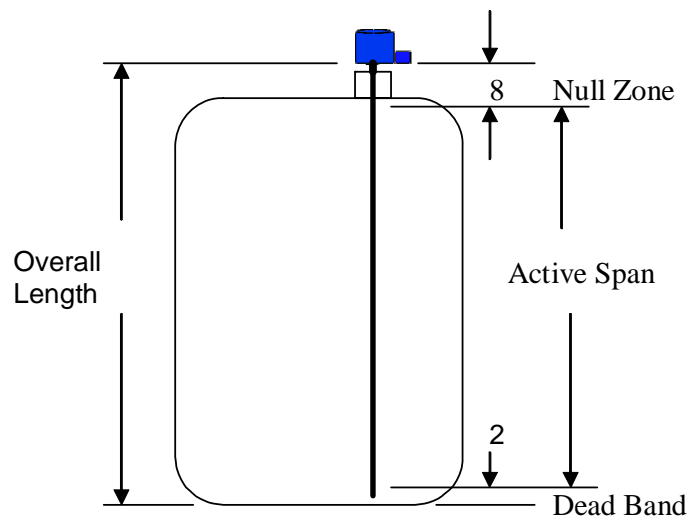

Figure 13 - DataStik™-X Probe Mounting
5. If **DataStik™** Probes are to be installed through very large heavy manway covers, it is recommended that these heavy pieces be modified by welding on a fitting (i.e., a 2” FNPT half-coupling as shown in Figures 13 and 14) just large enough to accommodate the weights and floats so as to permit easy probe insertion and removal without removing the manway cover.